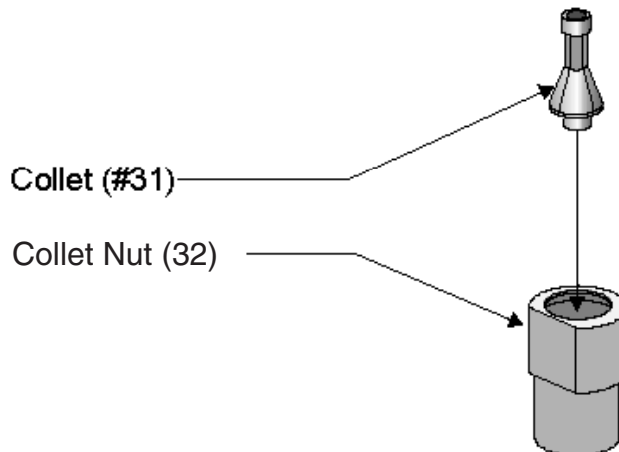

Figure 1 — Inserting the Collet
3. Insert the COLLET into the COLLET NUT (32) as shown in Figure 1.
4. Thread the COLLET NUT onto the CHUCK CASING (29) a few turns.